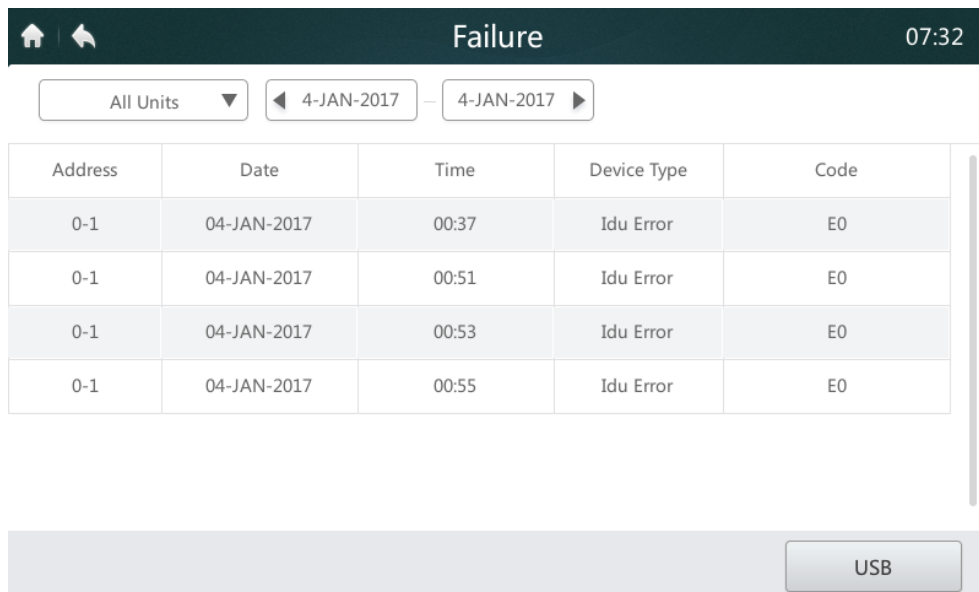

Figure 31 Homepage 2 of the Report page
3. If there is a historical fault record in the system after the start date and end date are selected, the interface shown in Figure 31 will be displayed.
4. Insert the USB storage device and tap the "USB" button marked "1" in Figure 31. The fault data will be exported to the mobile device in "csv" format. The fault data content includes the address, date, time, model and error code (as shown in the above figure) to facilitate queries. The screen will display the success message after the data is exported successfully, as shown below.